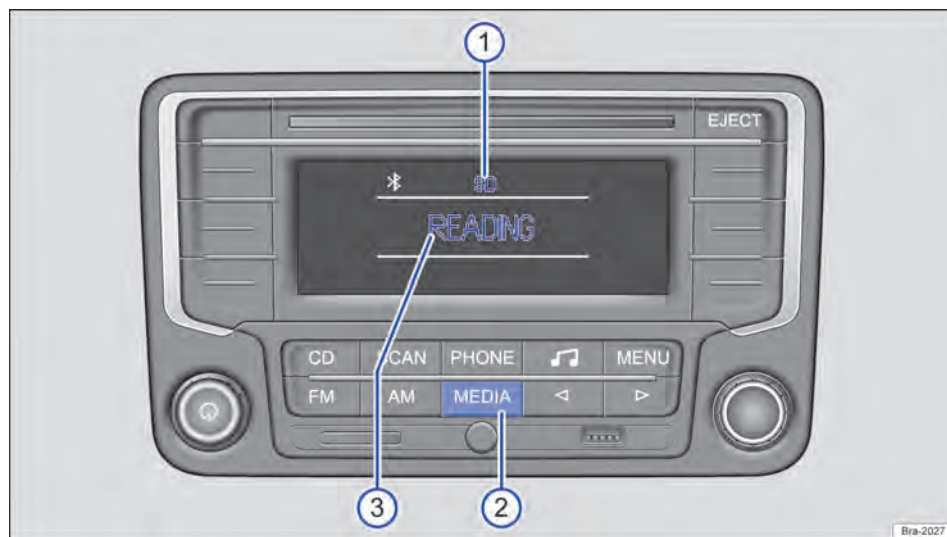
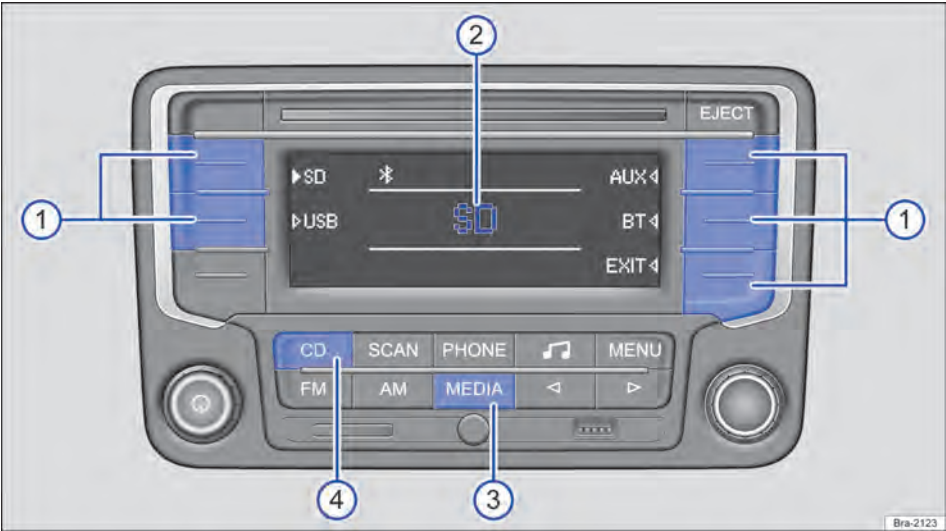

Fig. 143 Example of media playback display: the radio reads files in an SD card.
Fig. 144 Media playback display example: playback of the last media source is resumed; other media sources cannot be selected.
Several media sources may be selected and controlled in media mode. To switch to media playback, briefly press the unit button **MEDIA** → Fig. 143 ②.
If the last media source played is still connected, this media source will be automatically played, and it will be briefly displayed on the centre of the screen when switching to media playback → Fig. 144 ②.
During media playback, the selected media source will always be displayed on the upper central area of the screen → Fig. 143 ①.
All available media sources → page 153, *Selecting media sources* are displayed on the side of the screen → Fig. 144. In some playback situations, for example, when the radio reads a media source, no media source can be selected → Fig. 143.
The current media source's status is displayed on the centre of the screen (e.g. **READING**, while the radio reads a media source → Fig. 143 ③, track information → page 155 or error messages:
Start media mode → page 152, *Main menu MEDIA*. If the last media source played is still connected, this media source will be automatically played, and it will be briefly displayed on the centre of the screen when switching to media playback → Fig. 144 ②.
All media sources available are displayed on the side of the screen → Fig. 144. Select the desired media source as follows:
- Briefly press the function button programmed with the desired media source → Fig. 144 ①.
- **OR:** press the unit button **MEDIA** as many times as necessary until the media source is displayed (except CD) → Fig. 144 ③.
- **OR:** press the unit button **CD** to play a CD in the internal CD drive → Fig. 144 ④.